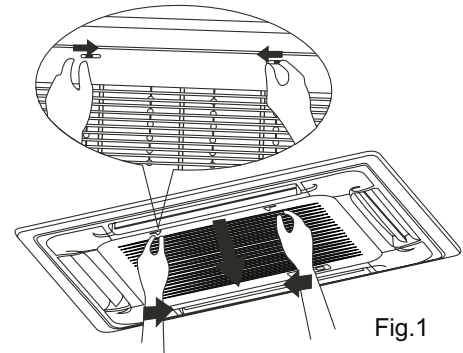

Fig.1
- 1** Open the frontal grille by seizing with the fingers the little levers inserted in the grille's body and slide them to the open position (towards the centre). Pull down the air inlet with the filter (Fig.1).